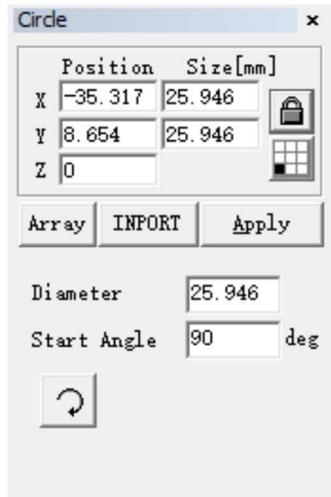

Figure 3-7 Object Attribute Bar
3.5.1 Click on "Circle" in the drawing menu, or click on the icon , move the mouse to the workspace, left click and drag the mouse, then release the left mouse button and right-click to draw a circle in the workspace. The diameter of the required circle can be modified in the left object property bar, as shown in Figure 3-7.